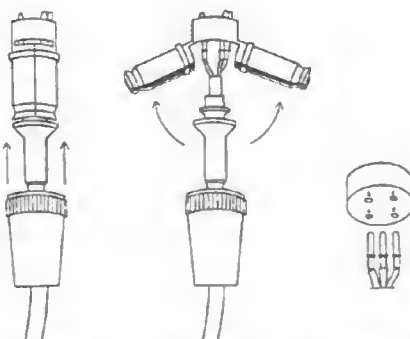

FIGURE 4 FIGURE 5 FIGURE 6
2. Gripping the connector shell firmly in one hand and cable (near connector) in other hand, firmly push cable into shell so that molded plastic insert slips from shell. (See Figure 4)
6. Snap molded insert halves into position. (See Figures 4 and 5)